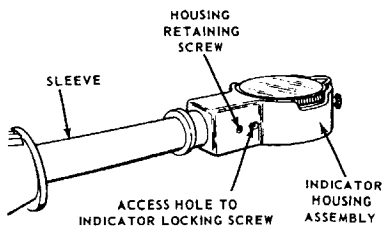

FIGURE 4
1. See Figure 4. Using a 1/8" hex wrench, loosen Housing Retaining Screw approximately two turns.